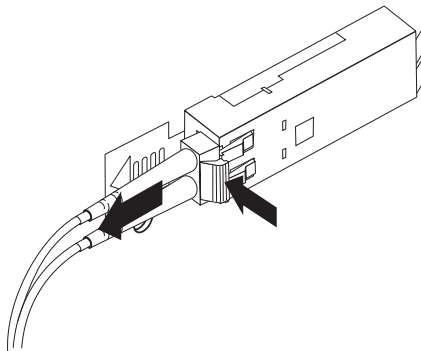

Figure 31. Removing the LC-LC fibre-channel cable
2. Carefully pull on the connector to remove the cable from the SFP module, as shown in Figure 31.